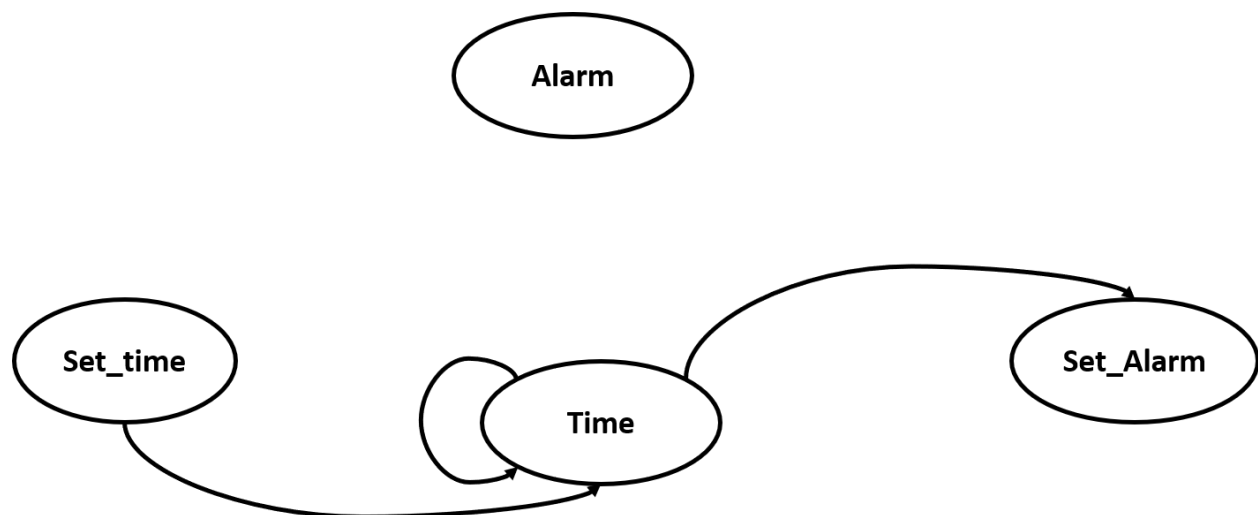

Figure 2 - FSM diagram of the alarm clock
- Complete the state diagram of Figure 2 by adding all transitions, labels and outputs. Assume that the display of numbers on the SSG and the clock are implicit and don't have to be driven in states. **(4 pts)**